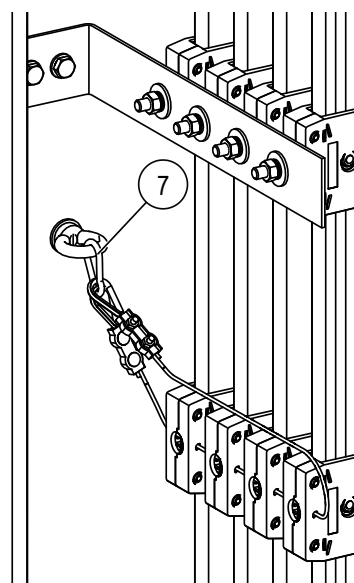

Fig. 43: Hook thimble in snap-hook (Pos. 7)
- Hook the thimbles into the snap-hooks (Pos. 7) (see Fig. 43).
- Hang the snap-hook (Pos. 7) in the suitable secure fastening options (e.g. eyebolt) for the securing rope (Pos. 4) (see Fig. 43).